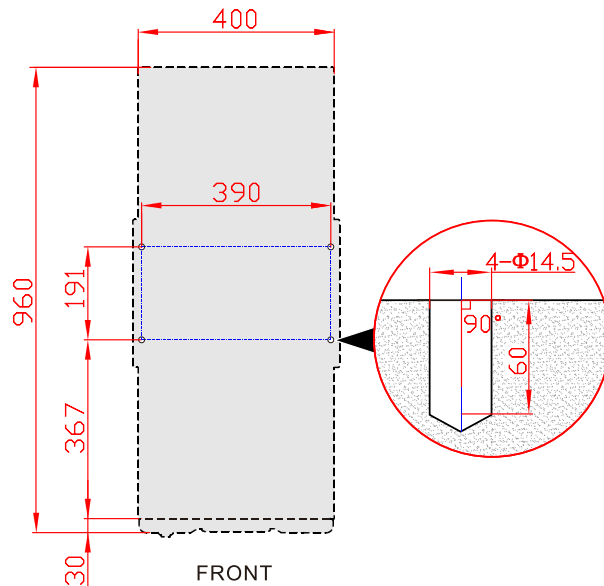

Figure3-10 Bottom installation size (bottom view of pedestal)(unit: mm)
- Step 2 Drill four holes of $\Phi 14.5$ by hammer drill according to the installation size of pedestal (as shown in Figure3-10).